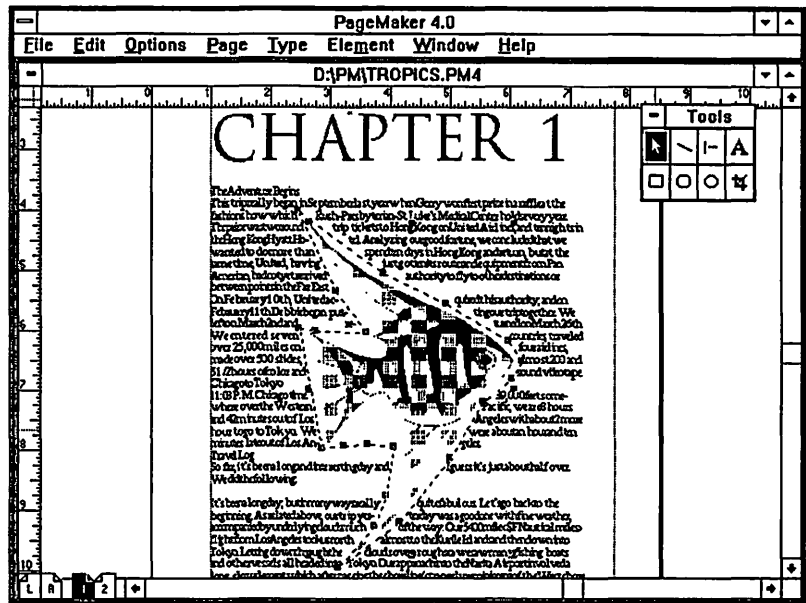

FIGURE 4-37 Use a scanned image to create a text-wrap with PageMaker's Text Wrap command.
2. Once you've finished setting TEXT WRAP borders around a for-position-only scan (Figure 4-37), select the image and substitute the